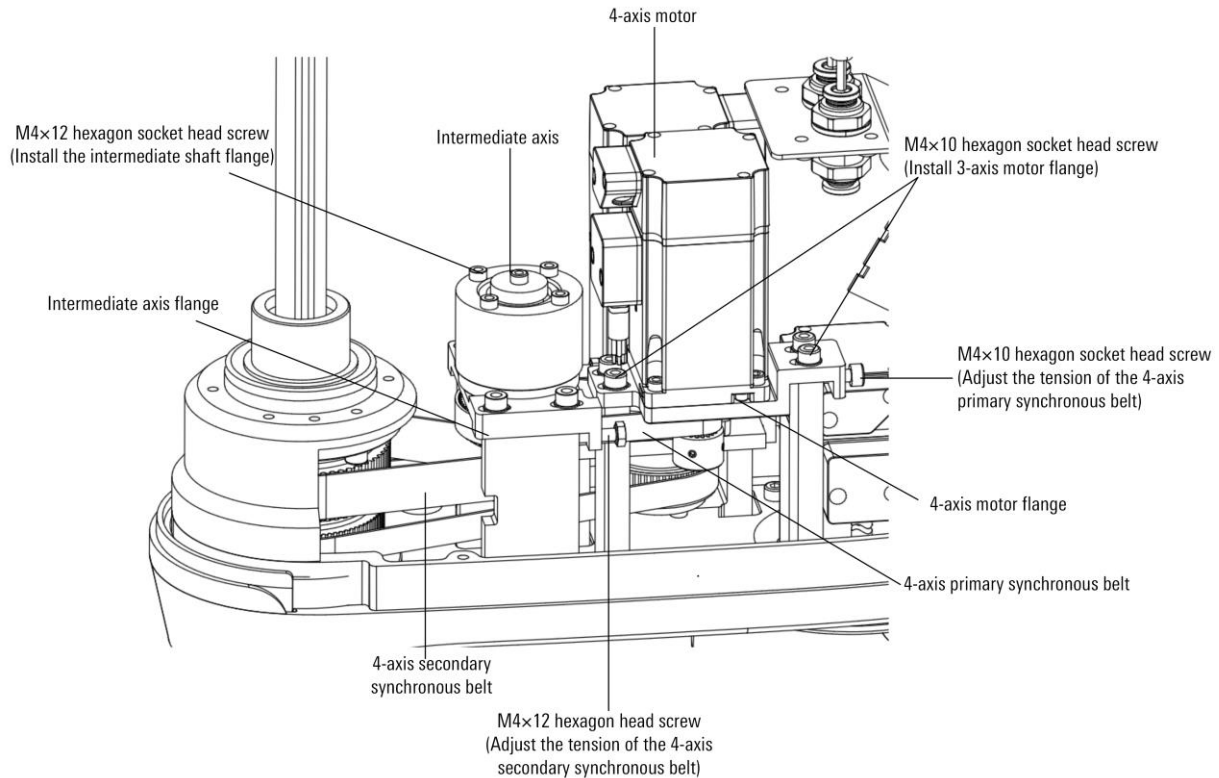

Figure 8-12 Schematic diagram of disassembling 4-axis motor flange and intermediate shaft
- Step3. Use an Allen wrench to remove the four M4×10 inner hexagon socket head screws for installing the flange of the 4-axis motor, and then slowly loosen the a M4×10 inner hexagon socket head screw that adjusts the tension of the 4-axis primary timing belt. Remove the flanges of the 4-axis motor and 4-axis motor together, as shown in Figure 8-12.
- Step4. Use an Allen wrench to unscrew and remove the four M4×12 hexagon socket head screws for installing the intermediate shaft flange, and then use a common wrench to slowly loosen the two M4×12 hexagon head screws that adjust the tension of the 4-axis secondary timing belt. Take off the intermediate shaft and the intermediate shaft flange together, as shown in Figure 8-12.